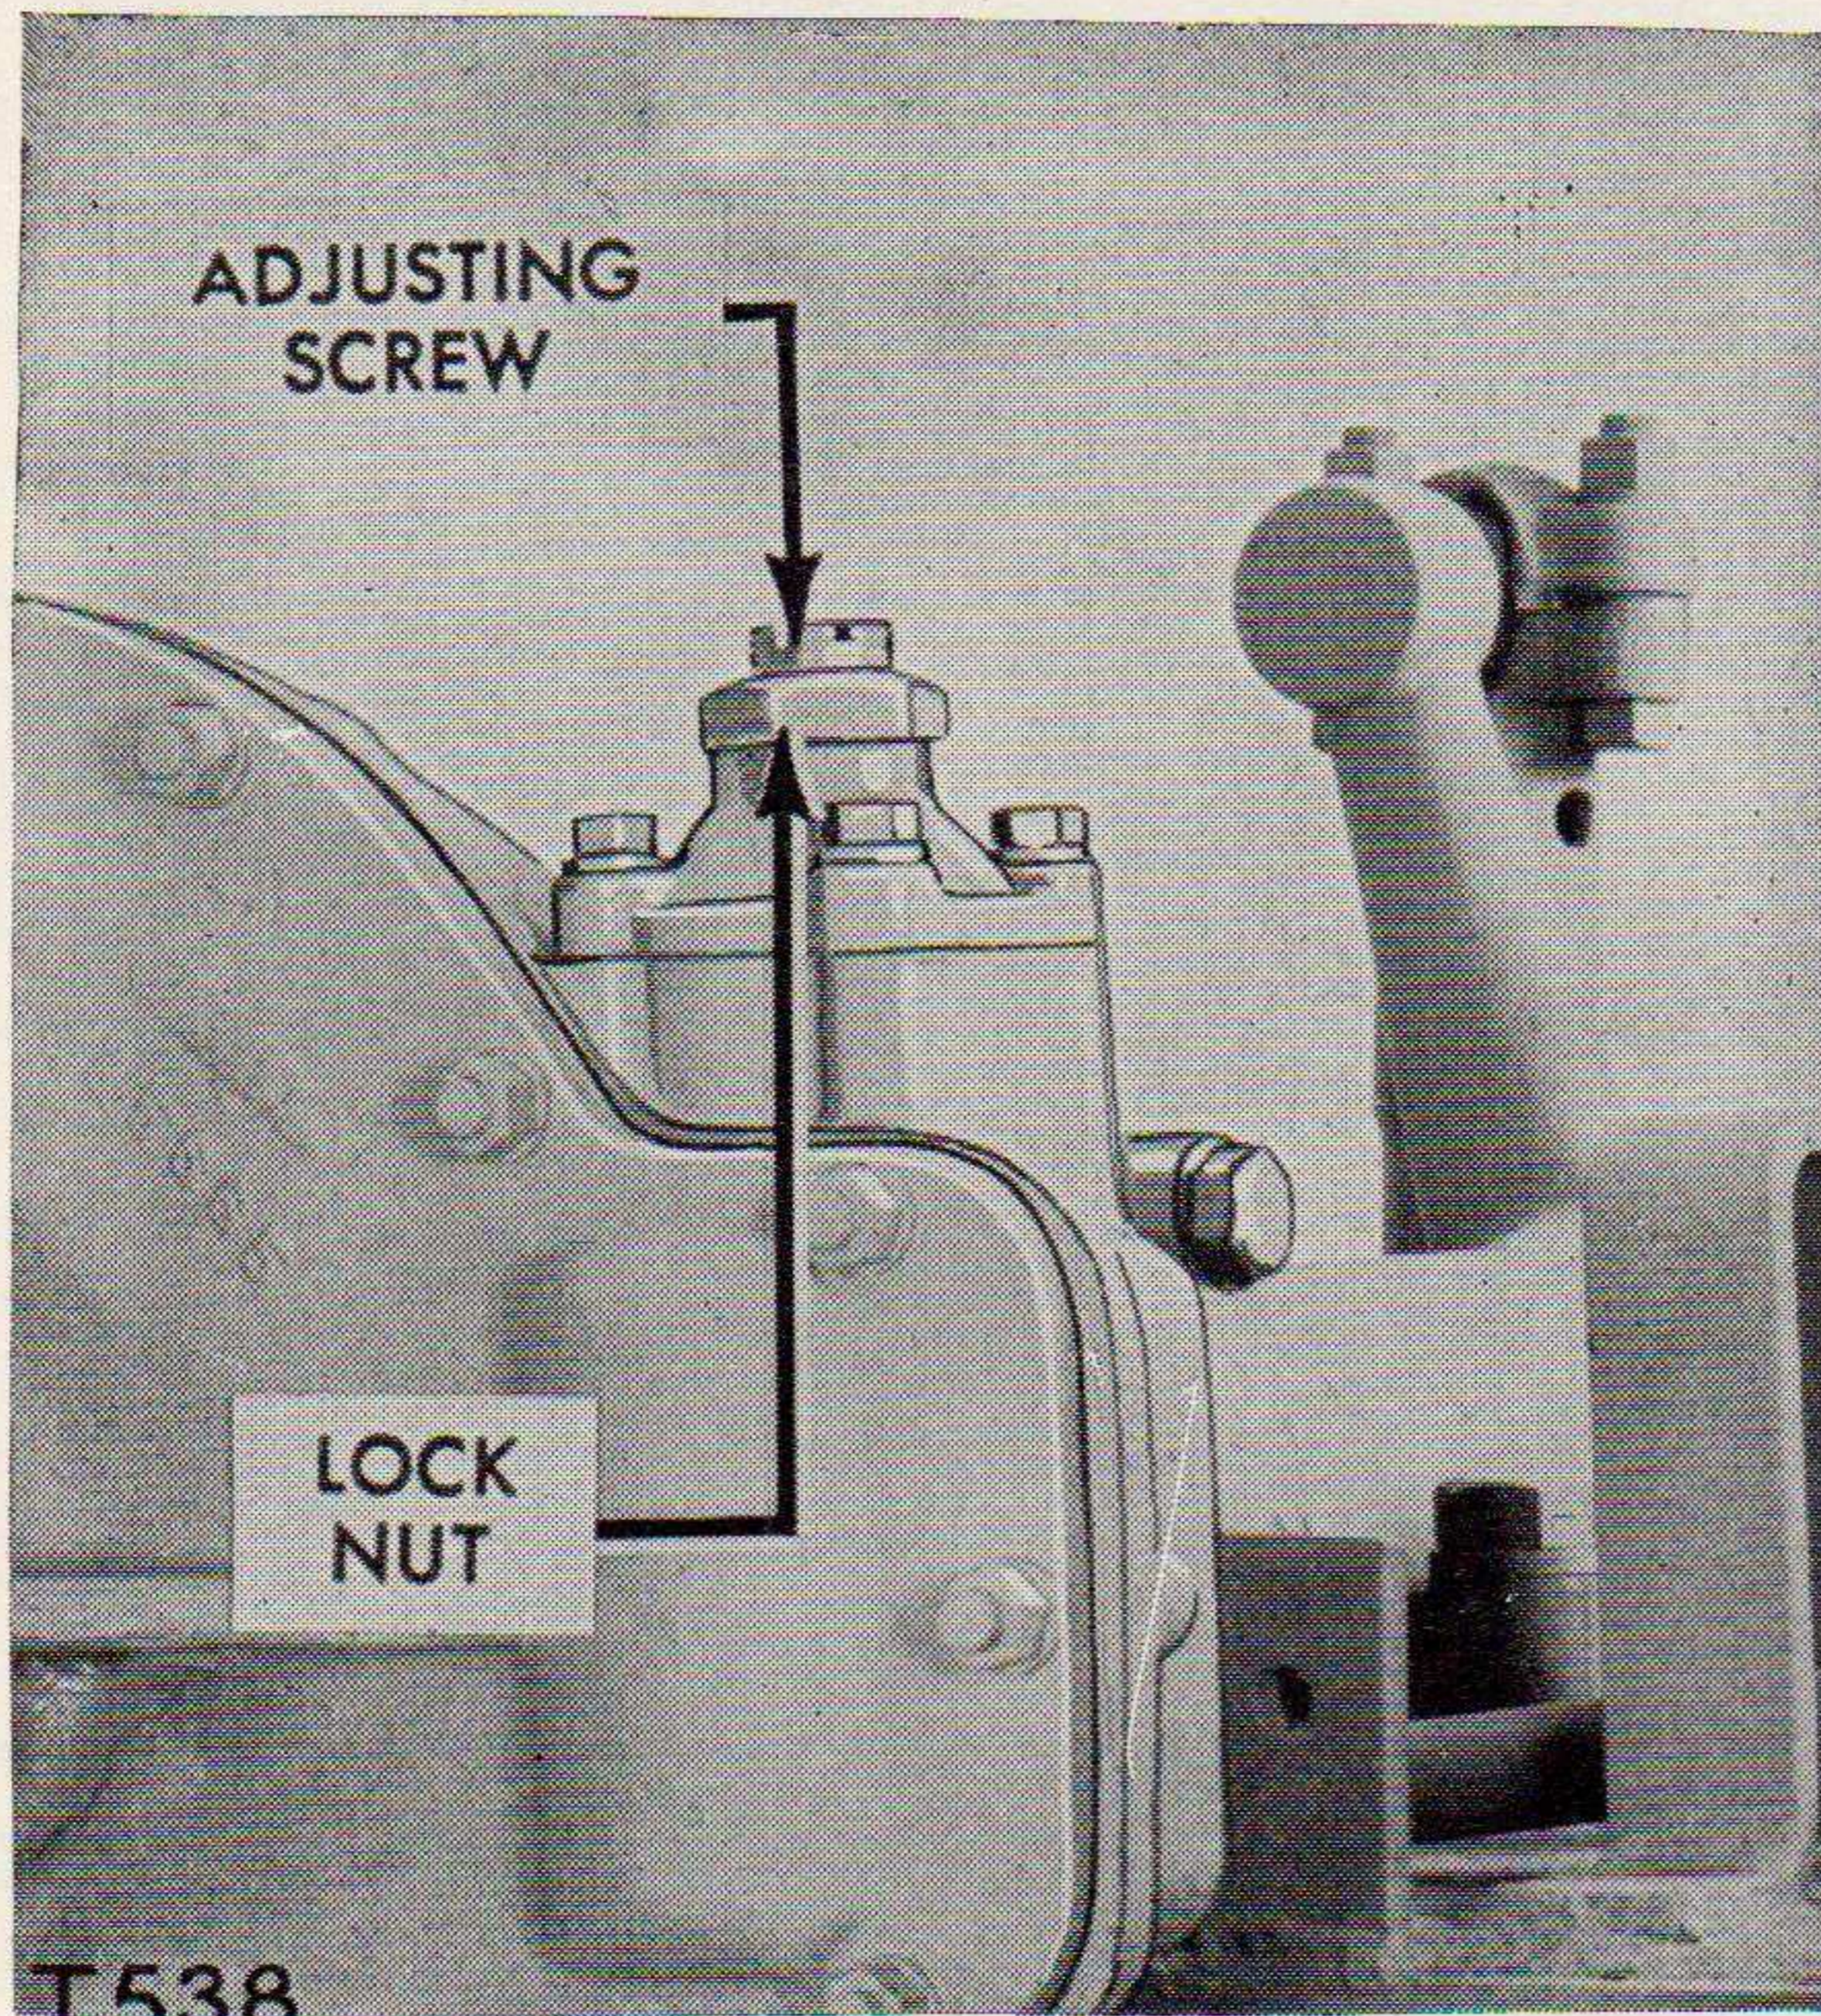

Figure 111. Scarifier worm shaft adjustment.
c. SCARIFIER WORM SHAFT ADJUSTMENT. (See fig. 111.)
- (1) *General.* The worm shaft adjustment provides a means of placing tension on the worm shaft to prevent the scarifier from dropping to the ground when the control lever is in the neutral position.